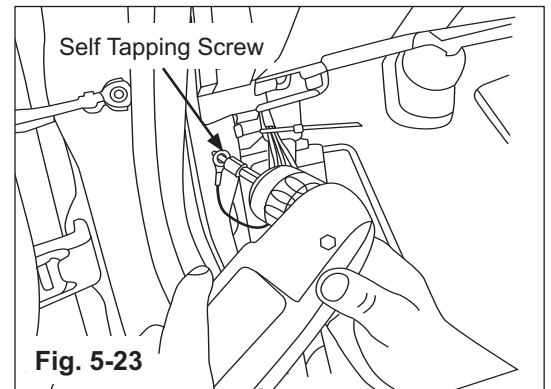

Fig. 5-23
- a) Insert 8mm self-tapping screw from installation kit, through ground ring of EC harness ground wire. (Fig. 5-23)
- b) Using power driver and 8mm socket, drive screw into vehicle cowl area sheet metal as shown. (Fig. 5-23)